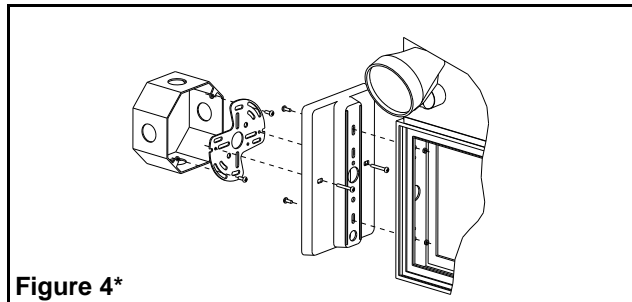

Figure 4*
- e. Fasten the canopy to the exit (see figure 4). Knock out the two holes near the wire way. Fasten the canopy-exit assembly to the spider plate using the provided 1" screws.